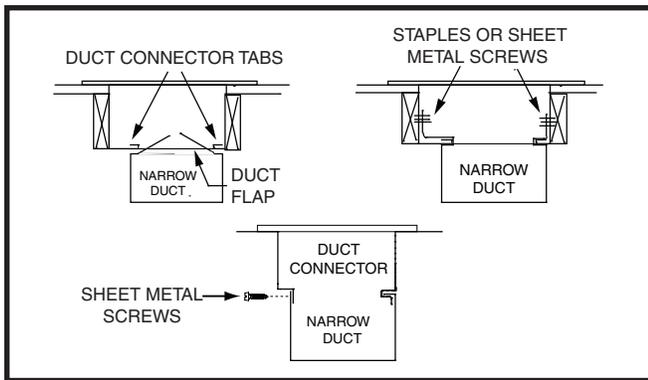

Figure 10. Narrow Ducts
- Bend the tabs on the bottom of the duct connector upwards and as tight as possible against the supply air duct. See Figure 10 (page 9).